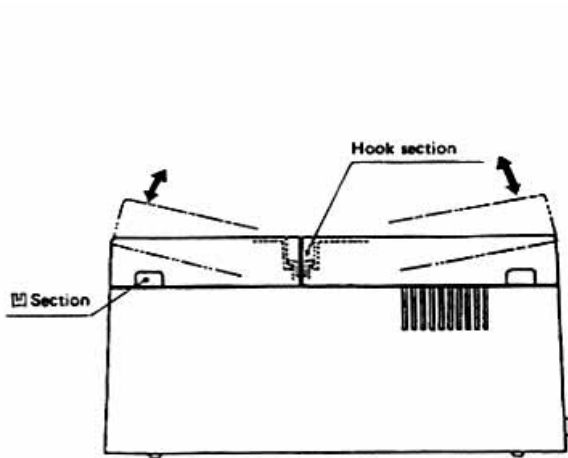

Fig. 9
- 1) First remove the ribbon cover (CBM-710, CBM-730). In the case of the CBM-720, 750 remove both the ribbon and paper covers and then open the cutter unit. (Refer to figures 9, 10 & 11.)